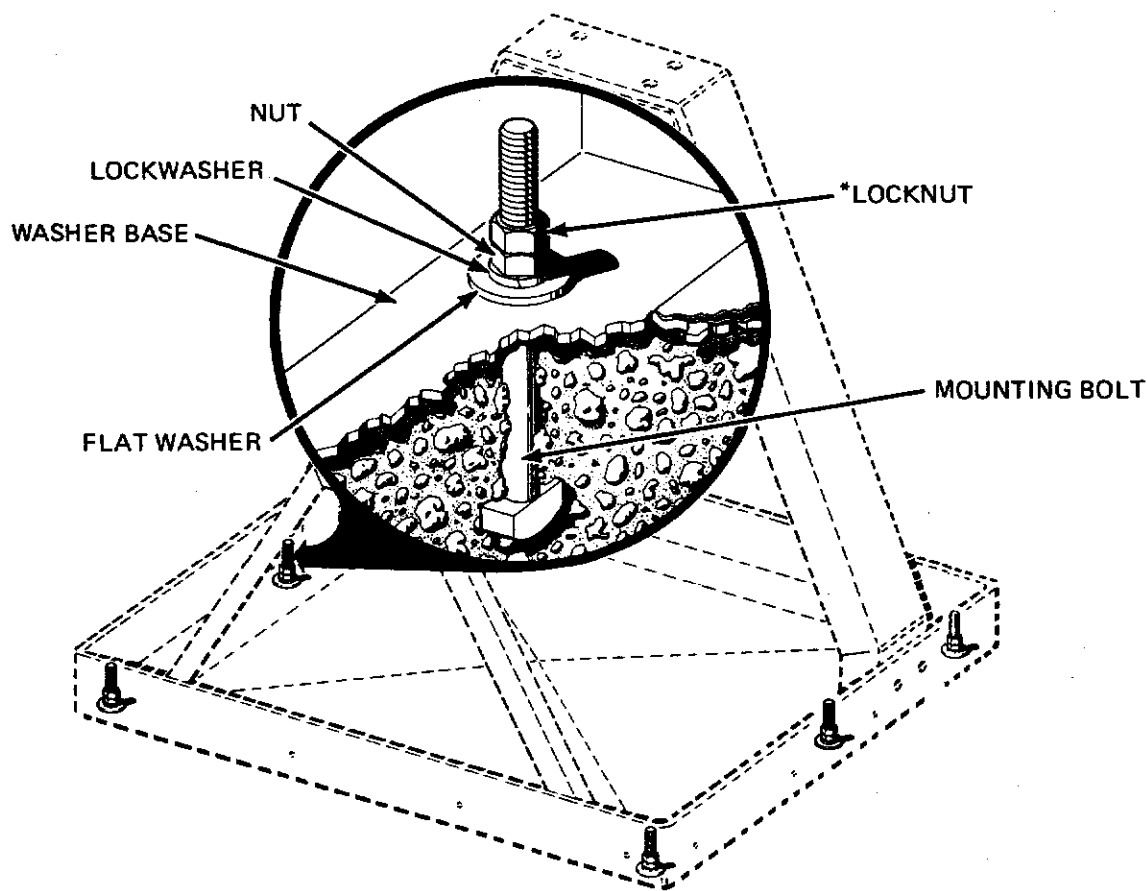

Figure 5
- d. Remove blocks from under washer and position No. 20162 washers, No. 91200 lockwashers, and No. 81121 nuts and locknuts on mounting bolts as shown in *Figure 5* and tighten securely.